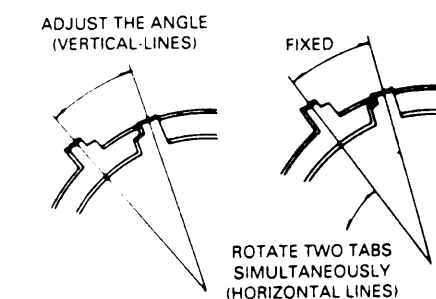

Fig 2.
- Tilt the deflection yoke up and down, and insert tilt adjustment wedges 1 and 2 between the deflection yoke and CRT until the mis-convergence illustrated in fig. 2 (A) has been corrected.
- Tilt the deflection yoke right and left, and insert tilt adjustment wedge 3 between the deflection yoke and CRT until mis-convergence illustrated in fig. 2 (B) has been corrected.